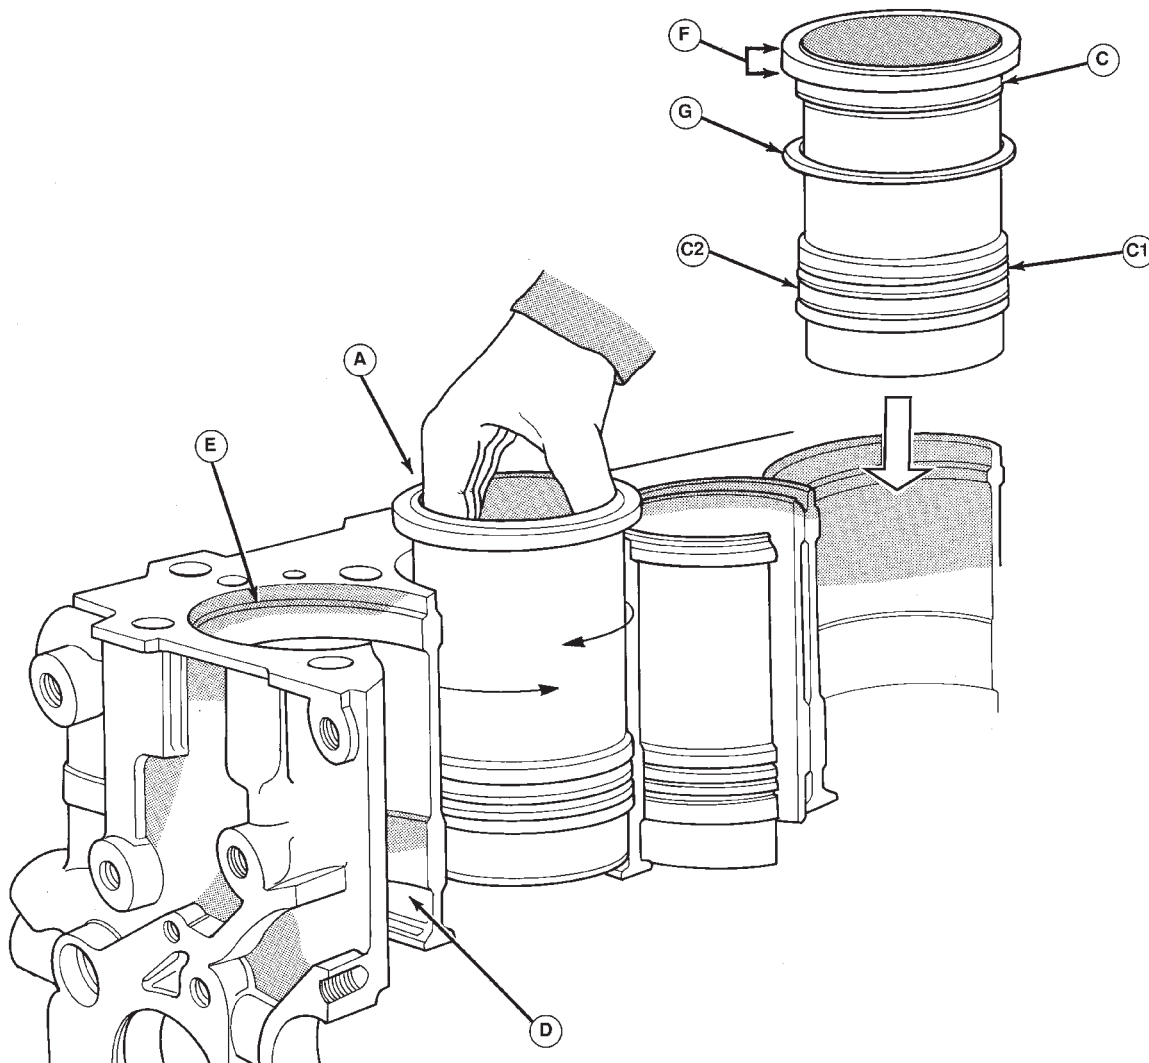

Fig. 106 Liner Installation
(1) Carefully clean residual LOCTITE from liner and crankcase, and degrease the crankcase where it comes into contact with the liners. Install the liners in the crankcase as shown (A), rotating them back and forth by 45° in order to guarantee correct positioning (Fig. 106).
(2) Measure the liner recess relative to block deck with a dial indicator mounted on a special tool VM-1010 A. **All the measurements must be taken on camshaft side**. Zero dial gauge on block deck.
(3) Move dial gauge to cylinder liner record reading on dial gauge.
(4) Remove liner and special tool.
(5) Then select the correct shim thickness to give proper protrusion (0.01 - 0.06 mm).
(6) Fit the shim and the O-rings onto the liner.
(7) Lubricate the lower liner location in the block.